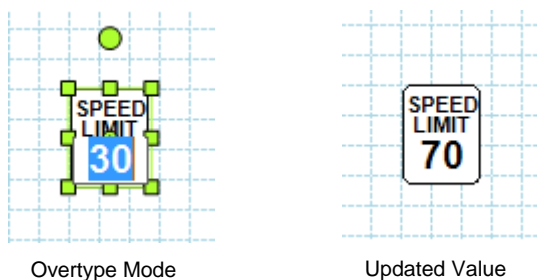

Figure 143. Replacing Symbol Text
2. Double-click the symbol number text to change to overtyping mode and enter text, as shown in Figure 143.